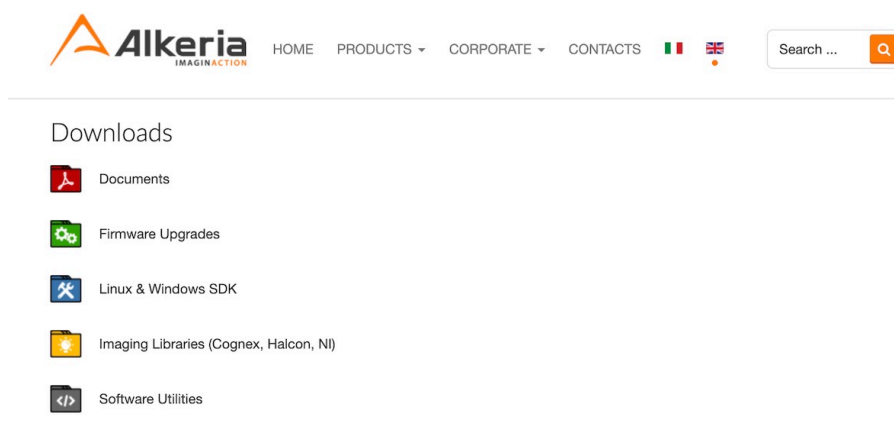

Figure 1.6: User Area root folder
Step 4: On “Downloads” root folder, you can find many file categories, each containing various files (Figure 1.6)